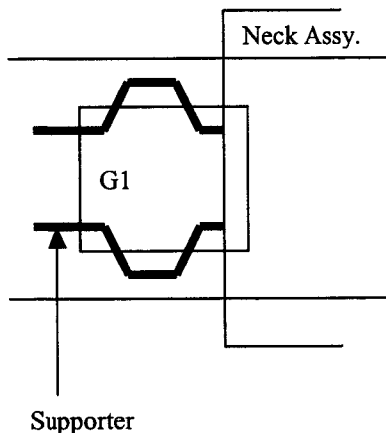

Figure 1
Confirm neck assembly Z axis position. (See Figure 1)
**(See Section 2-4 Figure 1 - before changing DF/DQP data or troubleshooting circuit when DF/DQP is suspect.)**